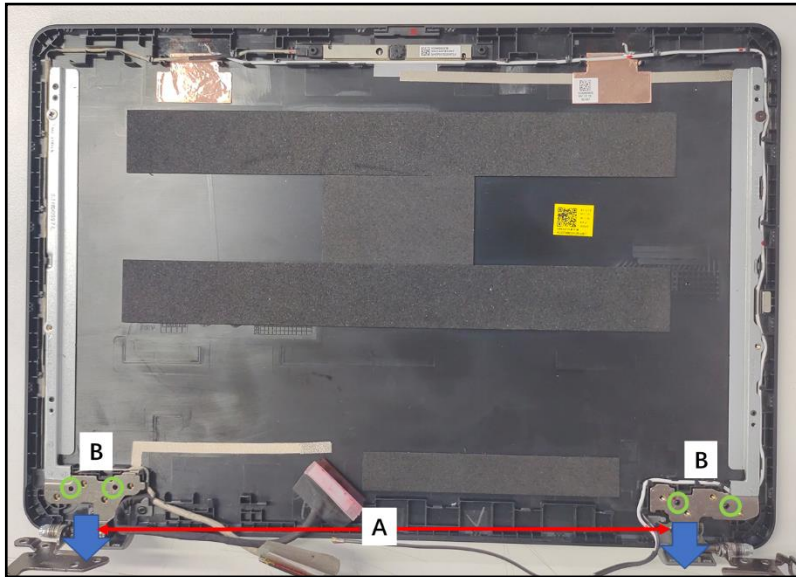

Figure 3-54. LCD Hinges Removal
7. Release the LCD hinges (A) from the guide pins (B) on the LCD cover (Figure 3-54). Then remove the LCD hinges.